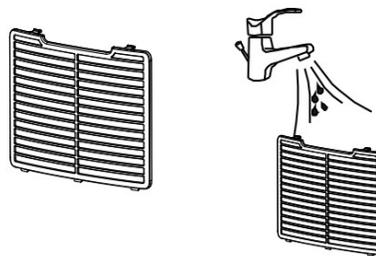

Fig. 2
2. Gently clean the filter with a vacuum cleaner to remove dust. If necessary, wash the filter with warm soapy water **DO NOT USE ALCOHOL, BENZENE OR OTHER AGGRESSIVE PRODUCTS** (Fig. 2). Leave the filter to dry naturally, then insert it back into its housing (Fig. 3). Do not use hair dryer or fire to dry the filter. Do not use sponges or brushes to clean the filter as they can damage it.